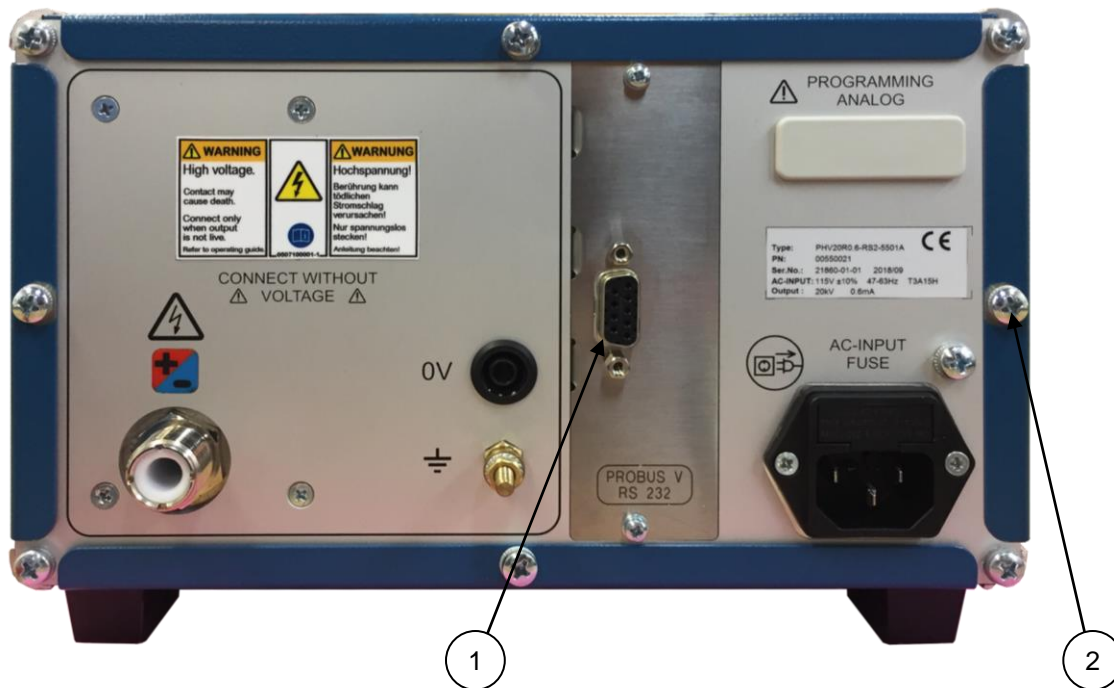
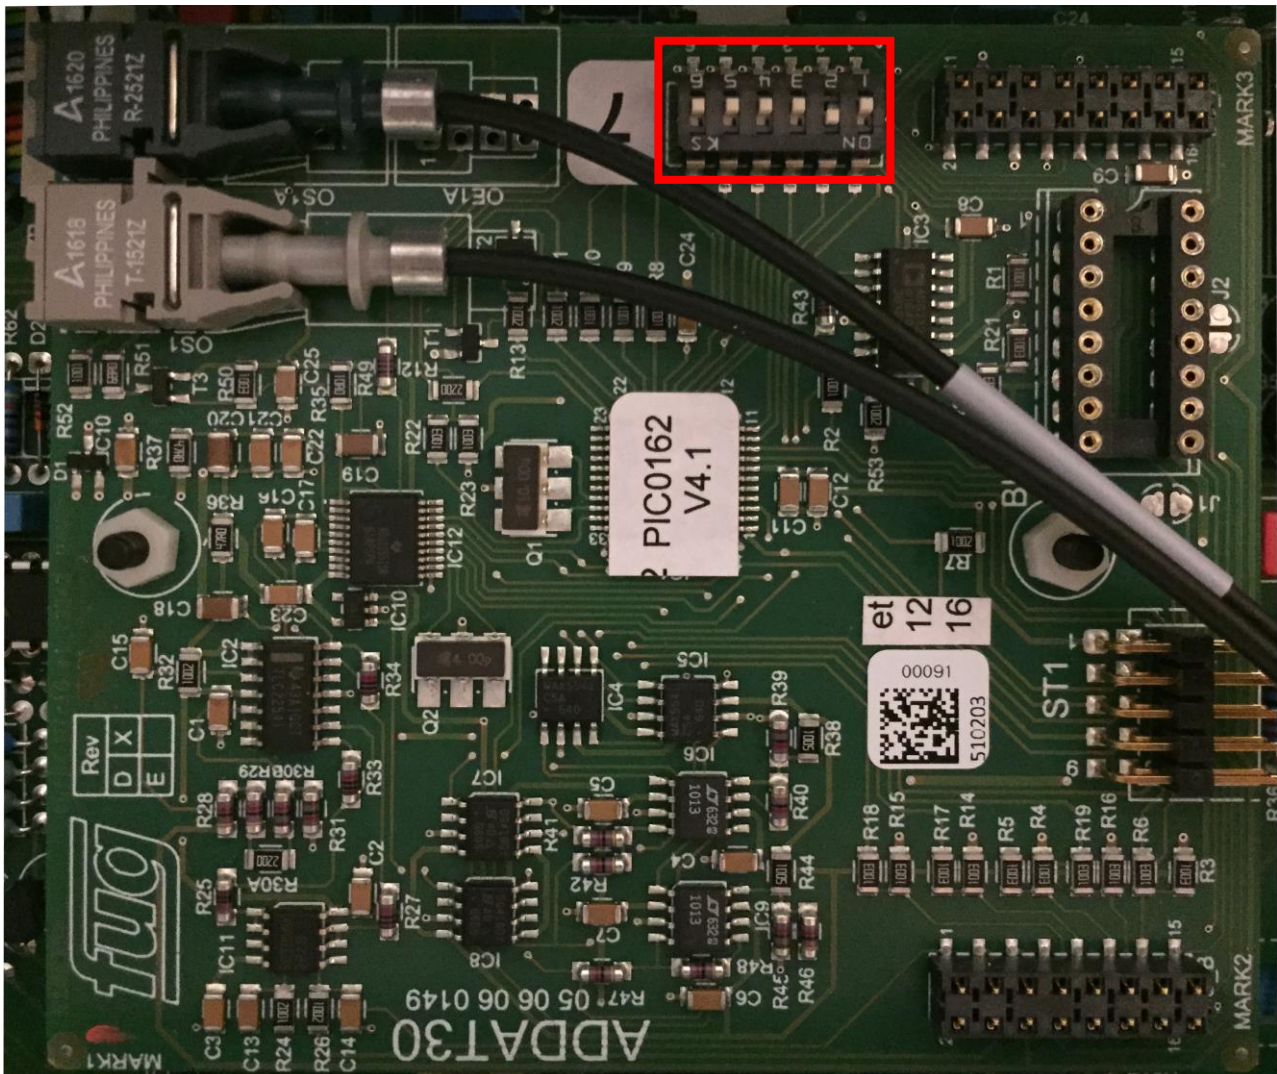
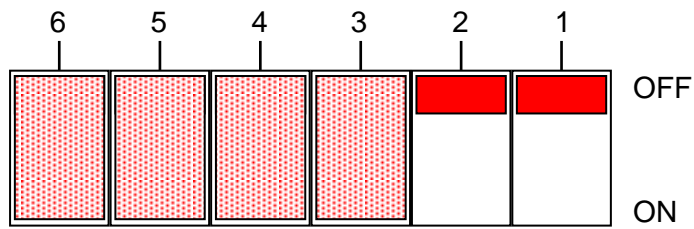
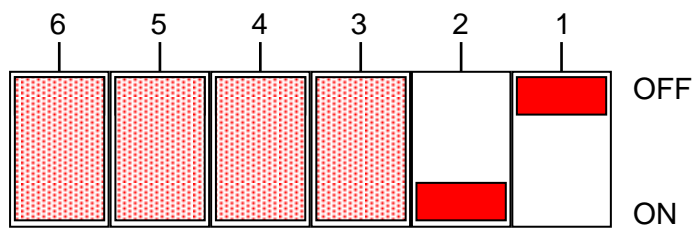

Figure 1. PHV Rear Panel.
Figure 3. ADDA Module with DIP switches highlighted.
Figure 4. DIP Switch settings for 9600Baud.
Figure 6. DIP Switch settings for 625kBaud.
The user has direct access to the interface converter which is located on the rear panel of the unit (see item 1 in Figure 1). The interface converter sends and receives commands from the user, and converts them to serial fiber optic data.
The RS232 interface is located on the rear panel of the PHV power supply (see item 1 in Figure 1).
The RS422 interface is located on the rear panel of the PHV power supply (see item 1 in Figure 1).
If the power supply was shipped with the RS232 interface, the baud rate is factory set to 9600Bd. The Baud rate can be changed in the field by removing the left side panel securing screw (see item 2 in Figure 1), locating the ADDA module (see Figure 3) and adjusting DIP switches 1 and 2 as shown in Figure 4 through Figure 6).